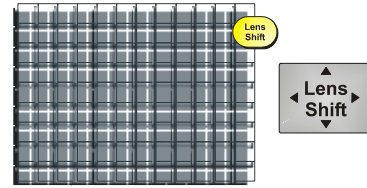

Figure 8. Centerline Alignment
- If centerlines are out by the same amount from top to bottom – use lens offsets (on top projector) to bring the centerlines into alignment. Refer to Figure 8.